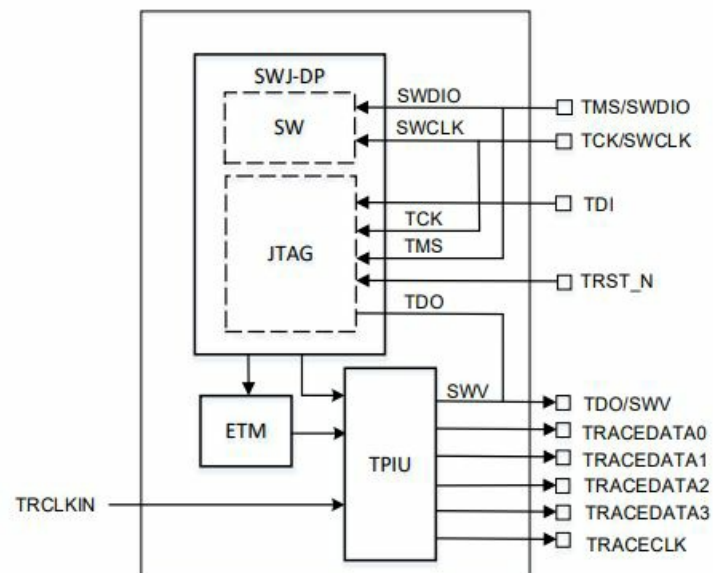

Figure 2.1 Debug Block Diagram
2. Refer to the Debug Block Diagram (Figure 2.1) to better understand the interface.
Figure 2.1 shows the block diagram of the debug interface.